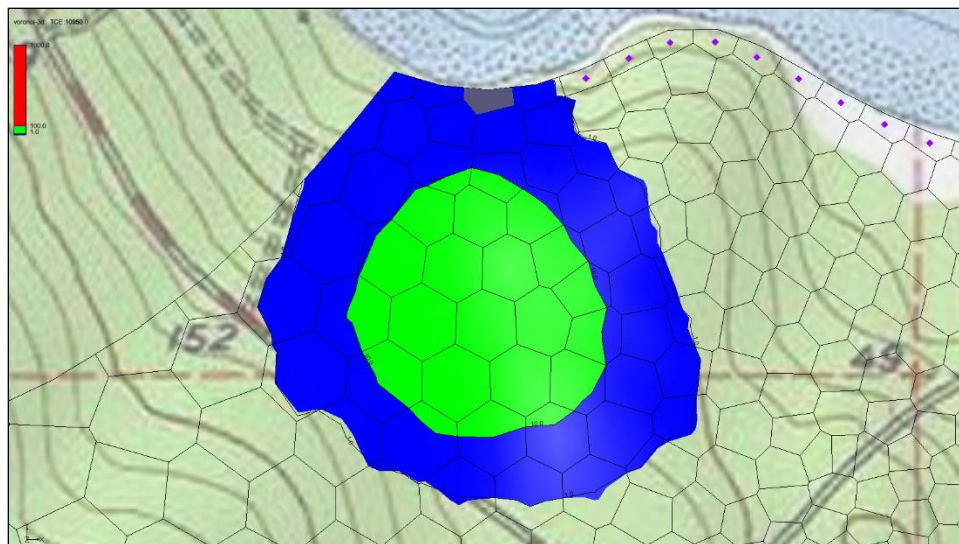

Figure 11 Select cell 840 in layer 1
- Using the **Select Cells**  tool, select cell 840 in layer 1 as in Figure 11.